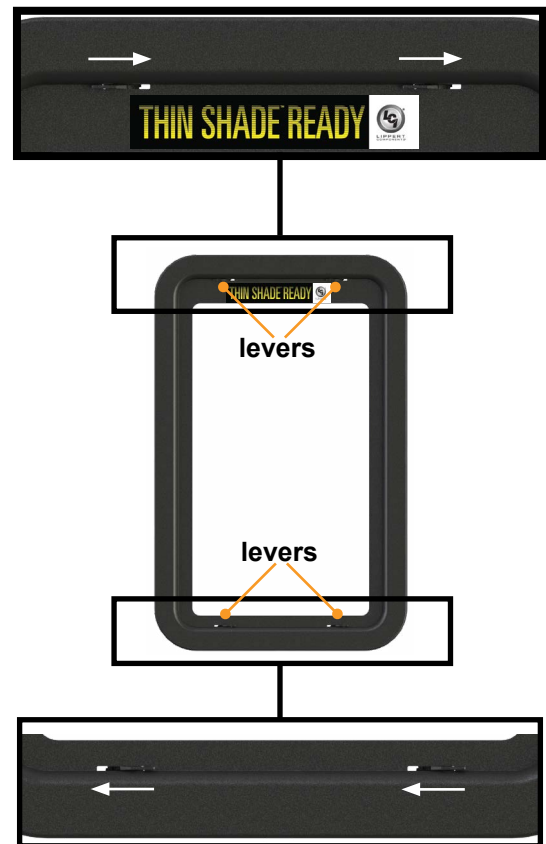

Fig.1
1. Unlatch the small levers at the top of the window frame in a left-to-right direction (Fig.1).
2. Unlatch the levers at the bottom of the frame in a right-to-left direction (Fig.1).